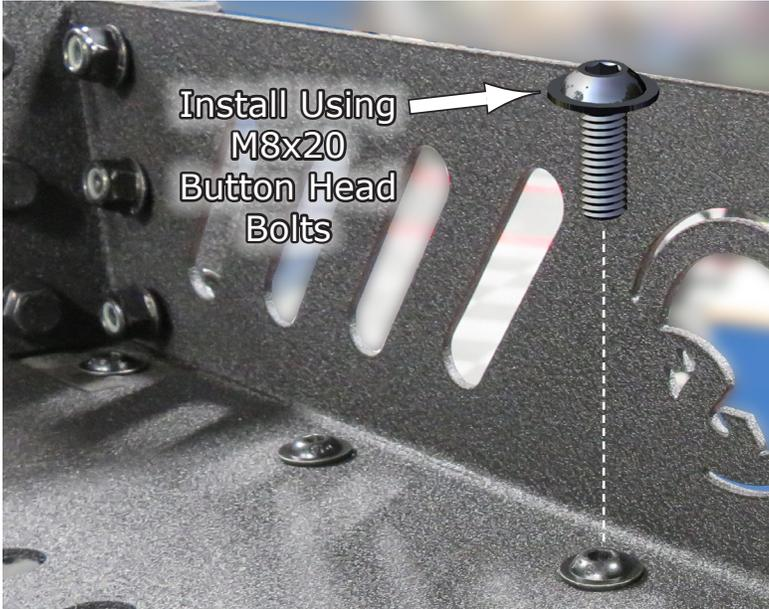

Fig.15a
15. Find the **M8x20 Button Head** bolts and **M8 Nylock Nuts** provided in your kit. You can now install the bottom sides of the **Front Rack Panel** to the **Braces**. There are three (3) bolts and Nylock Nuts on this side as shown in **Fig.15a-b**. Snug but don't tighten until all bolts are in place. Repeat for the opposite side. See **Fig.15a-b**.